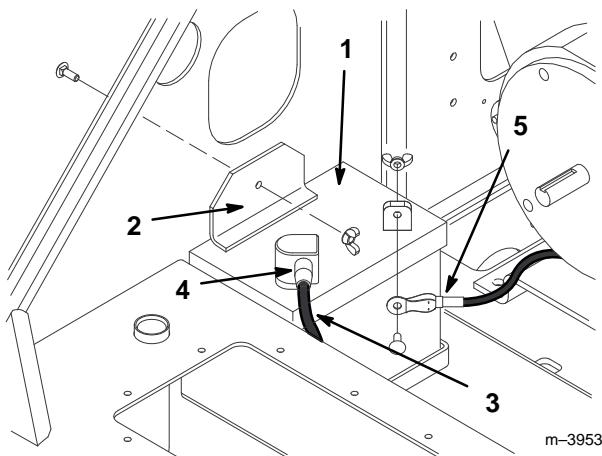

Figure 2
2. Remove the wing nut and bolt securing the battery clamp and strip (under the clamp) and remove the clamp and strip (Fig. 2).
- Install the battery into the chassis (Fig. 2).
- Secure the battery in chassis with the battery clamp (Fig. 2).
- Using the bolt and wing nut supplied with the battery, connect the positive (red) cable to the positive (+) battery post (Fig. 2). Slide the rubber cover over the battery post.
- Using the bolt and wing nut supplied with the battery, connect the negative (black) cable to the negative (-) battery post (Fig. 2).